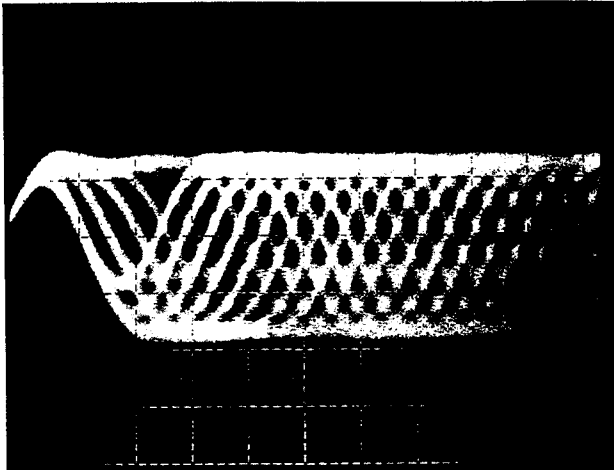

Fig. 22
2. Observe RFO in respect to REFOUT in the oscilloscope, and adjust VR355(FEB) to obtain maximum RF and optimum eye pattern. (See Fig.22,23)